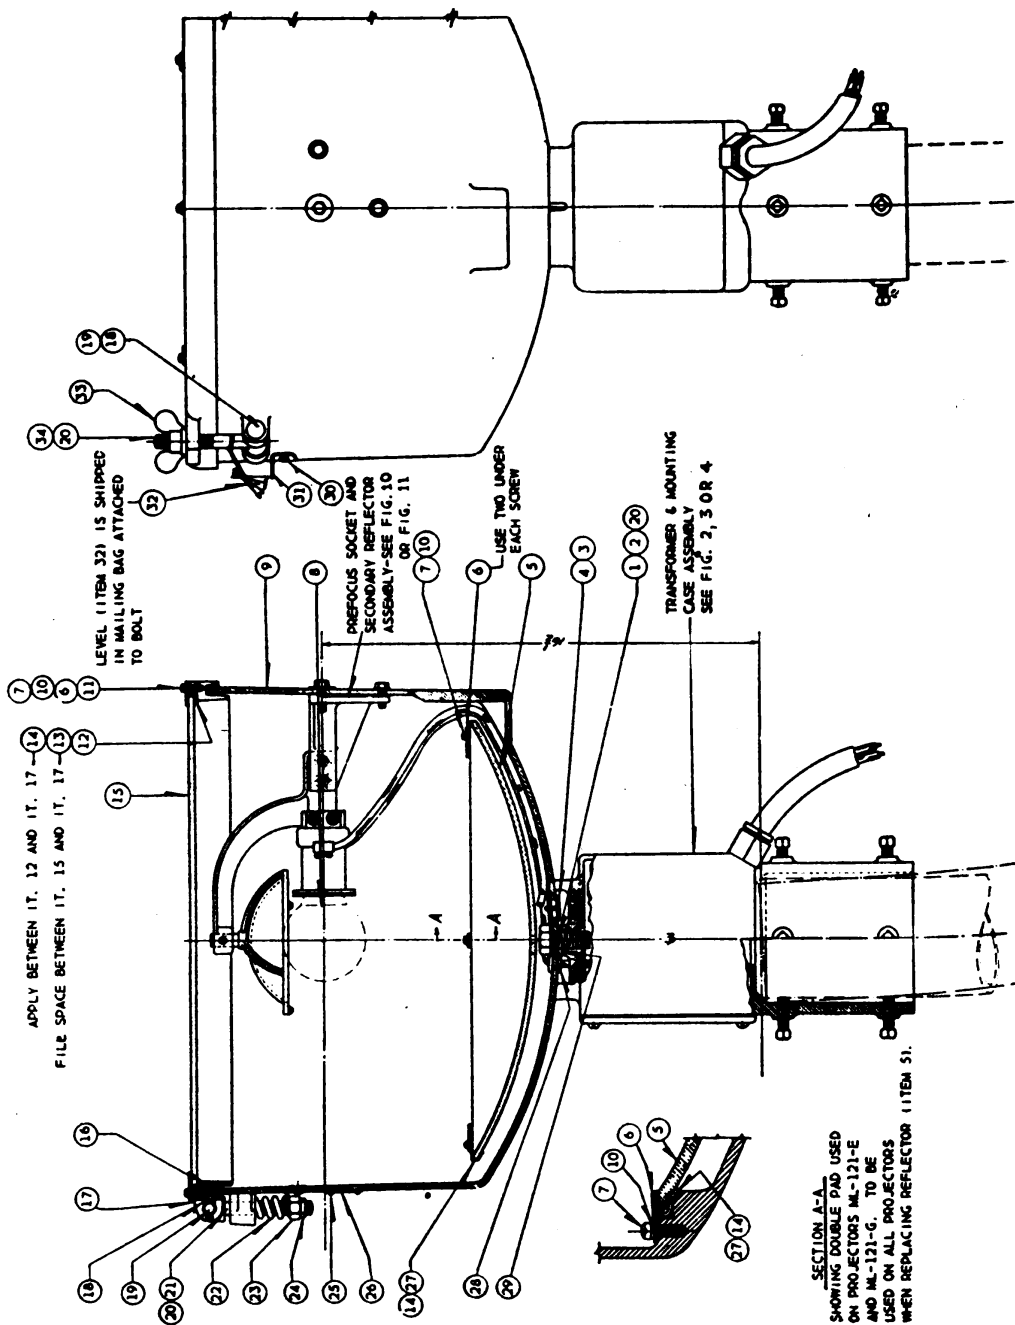

Fig. 9—Ceiling Light Projector ML-121-(*), General Assembly
(Figure 9). A primary reflector (item 5) is replaced by removing the six sets of screws, lockwashers, and clips which hold it in place against the felt-pads (item 27).
c. Replace the six sets of screws, lockwashers and clips and BE CAREFUL TO TURN THE END OF THE FELT PAD OVER THE EDGE OF THE REFLECTOR, BETWEEN THE CLIP AND THE REFLECTOR SURFACE. See the detail sketch (Section A-A) in figure 9.